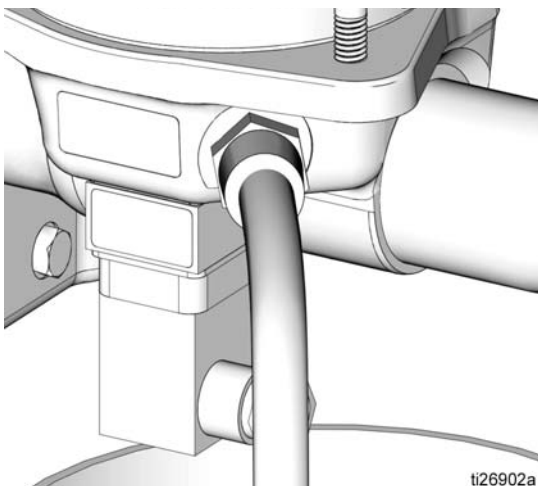

FIG. 13
3. Close **shut-off valve (V)** to turn off **oil input supply pump/system (DD)**.
5. Disconnect **supply line (G)** from the **pump outlet (E)**.
6. Slowly loosen and remove oil input line from the pump base and drain oil from the pump (FIG. 13).